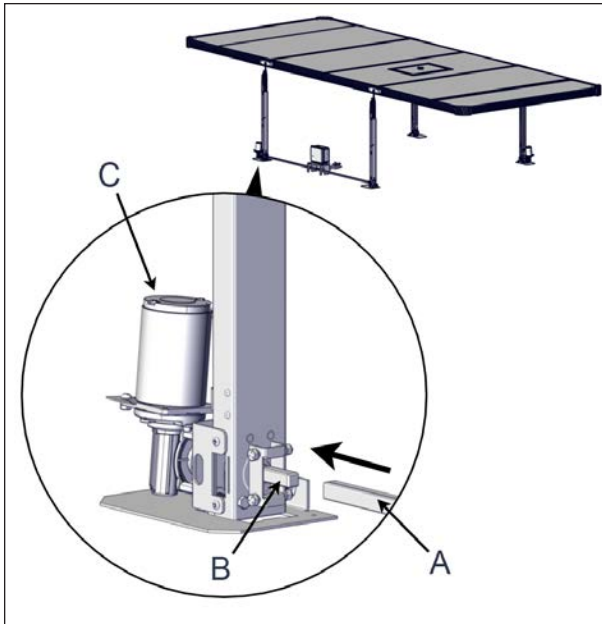

FIGURE 79: DRIVE SHAFT INSTALLATION ON THE MOTOR SIDE
2. Slide the drive shaft over the square shaft of one motor-side jack see Figure 79.